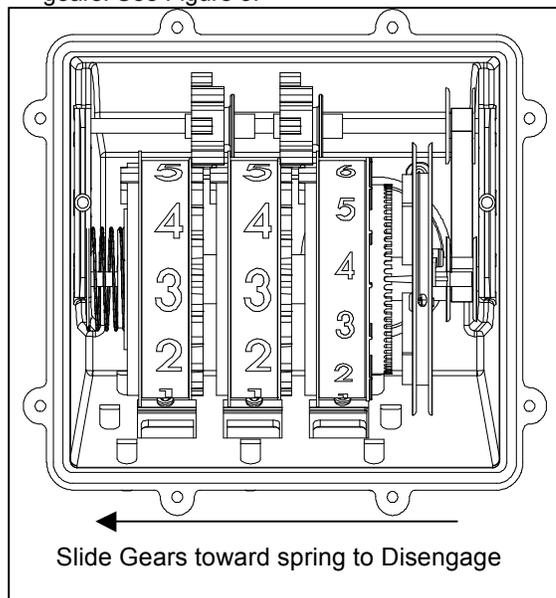

Figure 3
10. From inside of the tank gauge housing, disengage the gears by sliding them toward the spring at one end of the housing to allow for calibration of gears. While the gears are disengaged, start by rotating the inch gear to the match the inch value found in Step 1. Slide this gear away from the spring to re-engage. Repeat for two remaining gears. Be sure to view the gauge from the vantage point it will be viewed from in day-to-day operations to properly calibrate the gears. See Figure 3.